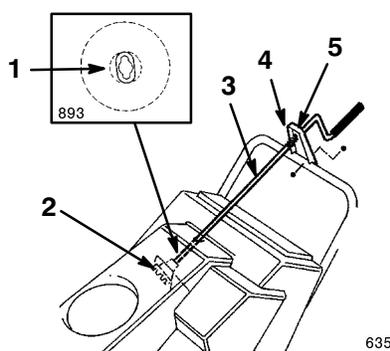

Figure 8
1. Insert the flattened end of the chute crank through the hole in the shroud while aligning the mounting bracket with the holes in the lower handle (Fig. 8).
2. Slowly rotate the crank until the flattened end fits into the hidden gear opening and the chute ring turns with the crank (Fig. 8).
3. Fully insert the plastic bushing into the hole in the mounting bracket (Fig. 8).
4. Secure the mounting bracket to the handle with two cap screws and locknuts (Fig. 8).